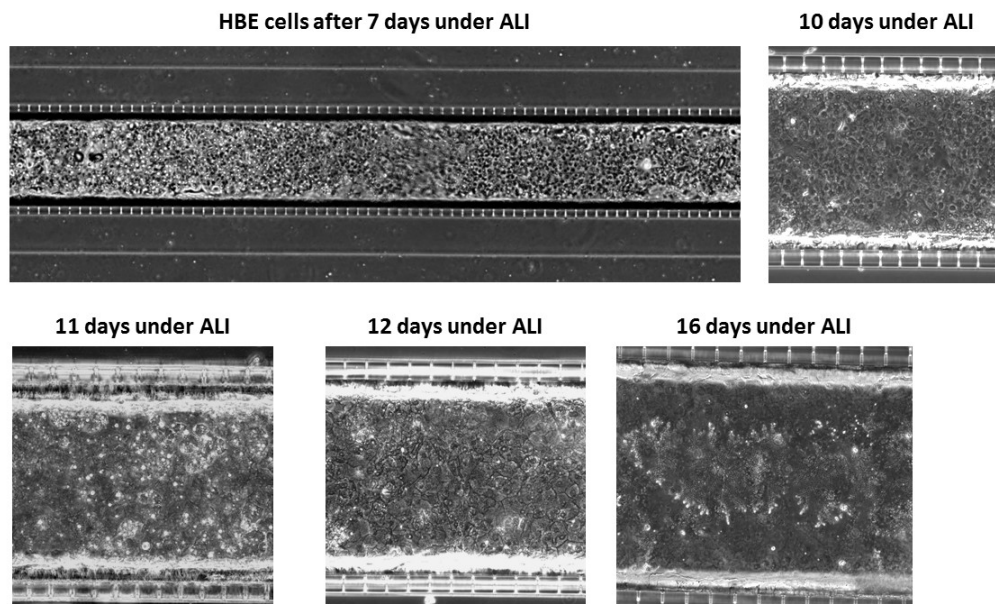

Figure 3. Images of HBE cells cultured under ALI conditions over time.
16. Image devices after each wash cycle to observe differentiation (**Figure 3**).